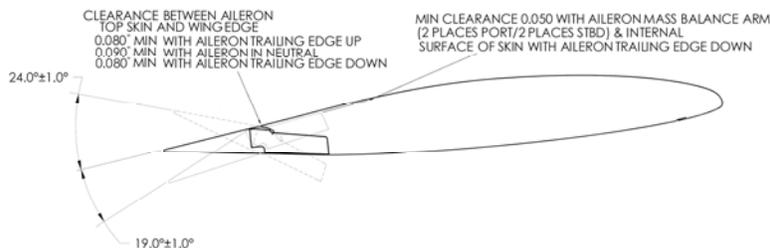

Figure 27-88 Aileron Measurements
27. Remove both (2) aileron neutral blocks.
30. Visually check pushrods rod ends, six (6) places port and six (6) places starboard for approximately equal amount of thread showing.
32. Verify push rod end jam nuts within the wing, four (4) places port and four (4) places starboard, and within the chassis, two (2) places port and two (2) places starboard tightened.
33. Check that the aileron, as rigged, does not violate the minimum clearances as shown in Figure 27-88.